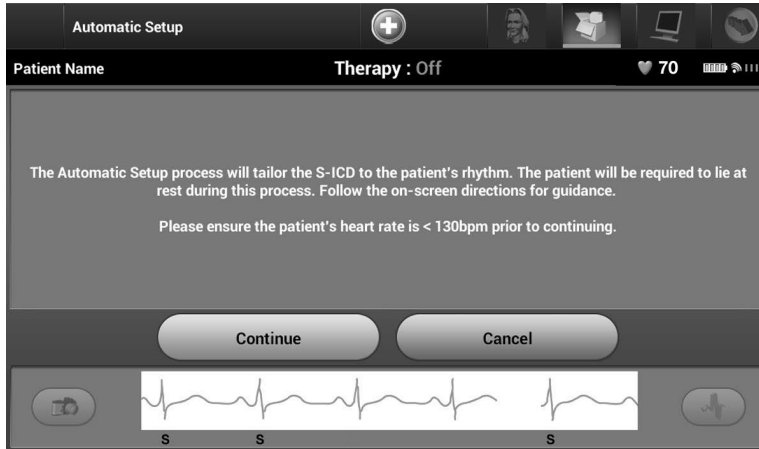

Figure 25: *Automatic Setup screen*
4. Select Continue if the patient's heart rate is less than 130 bpm (Figure 25). For rates greater than 130 bpm, select the Cancel button and refer to the **Manual Setup** section on page 77.